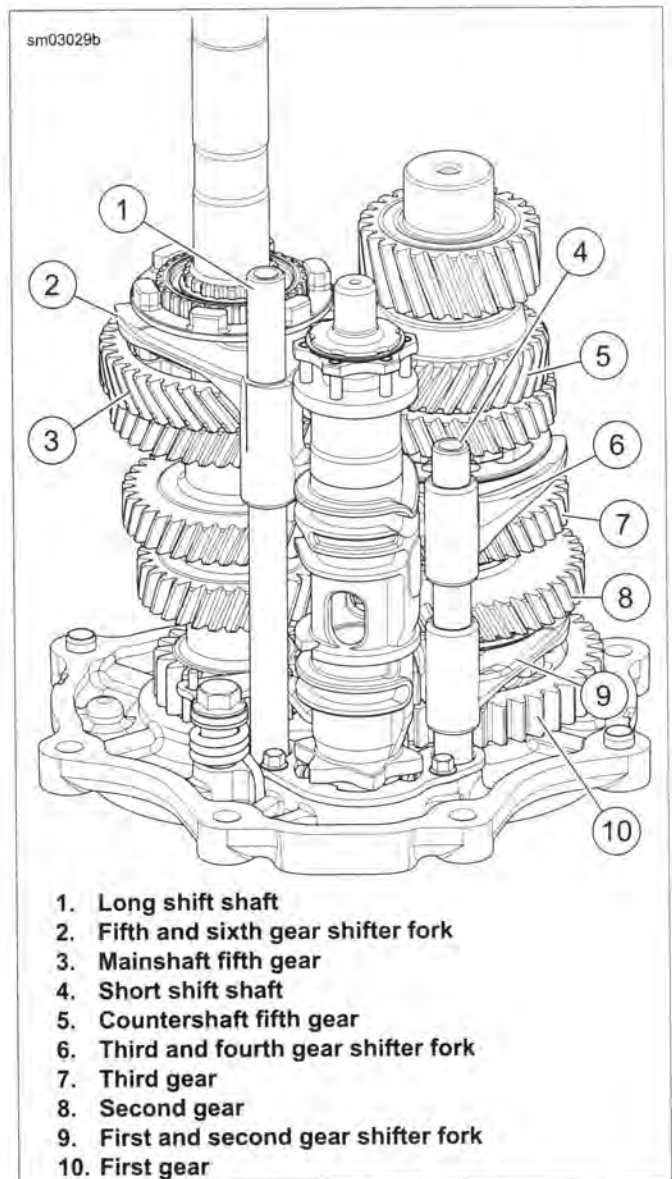

Figure 6-33. Transmission Gears and Shifter Forks
9. See Figure 6-33. Install long shift shaft (1):
- a. Insert shifter fork (2) into the slot of the dog ring between mainshaft fifth and sixth gear.
10. Install short shift shaft (4):
- a. Insert shifter fork (6) into the slot of the dog ring between countershaft third and fourth gear.
- b. Insert shifter fork (9) into the slot of the dog ring between countershaft first and second gear.